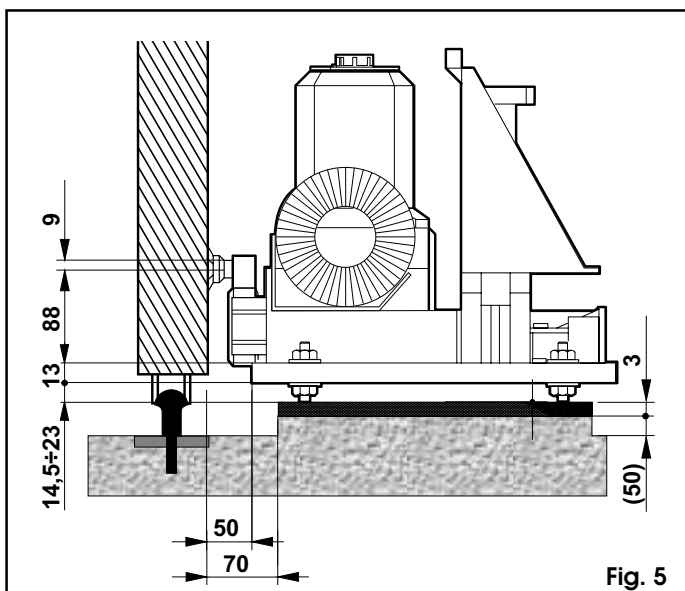

Fig. 5
N.B. it is advisable to place the base plate on a concrete foundation at about 50 mm from the ground (fig. 5).
The positioning of the operator is shown in fig. 5.